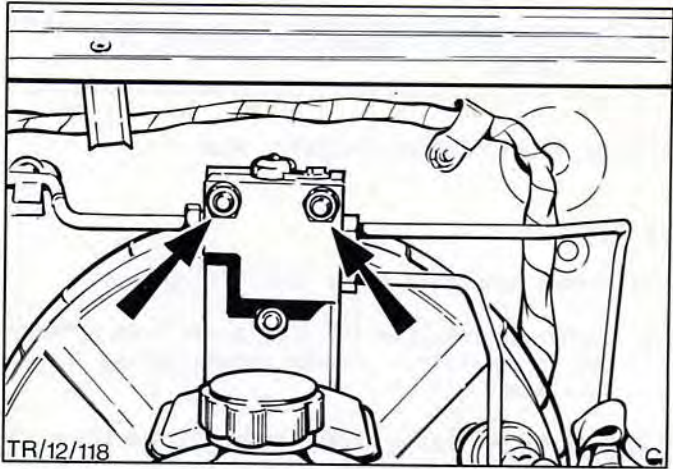

Fig.72. Metering valve mounting to servo bracket.
2. Remove two nuts securing valve body to bracket, remove valve, Fig.72.